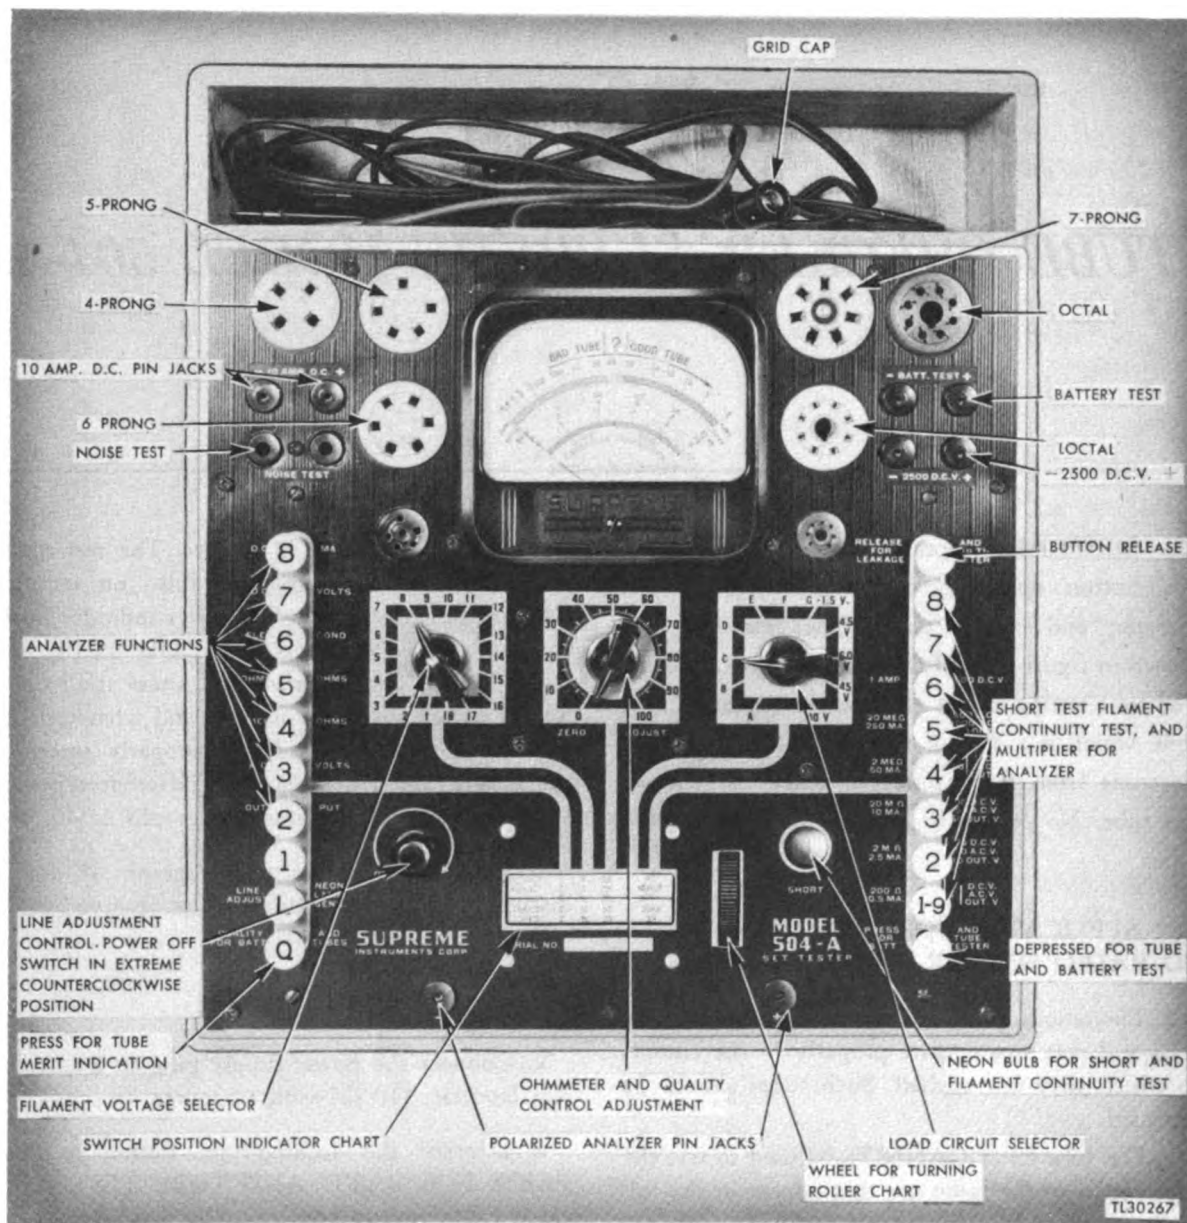
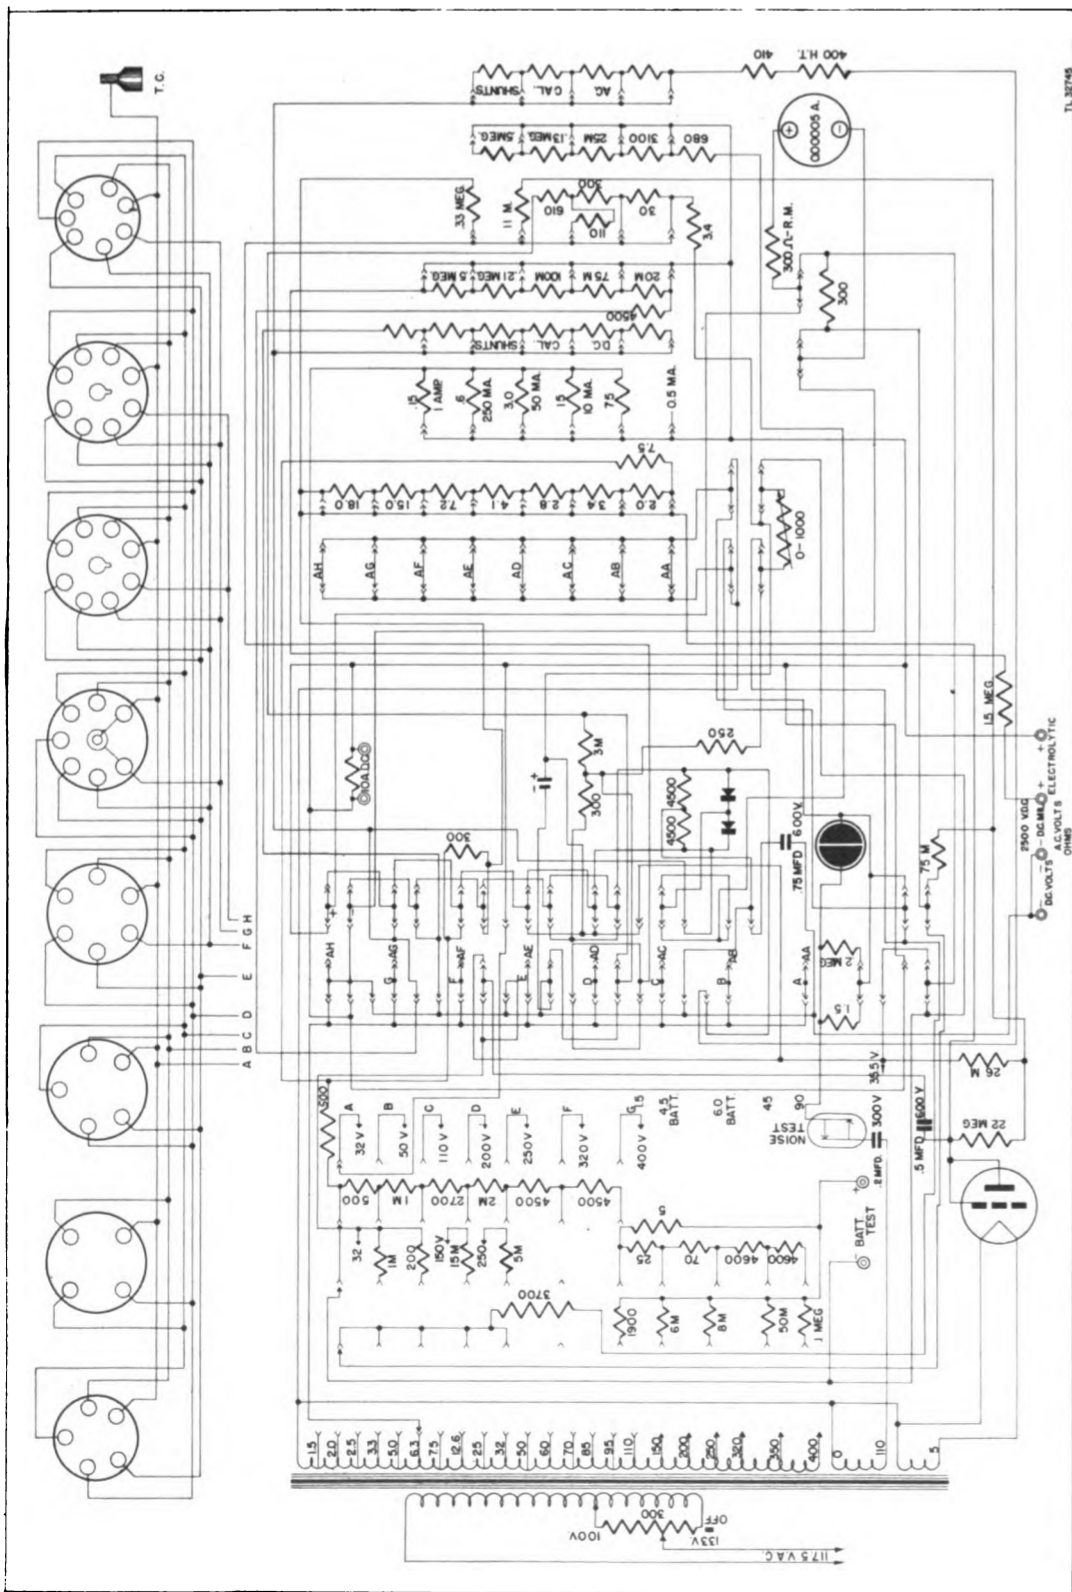

Figure 18. Tube checker, Supreme model 504-A, panel view.
Figure 19. Tube checker, Supreme model 504-A, schematic diagram.
68. GENERAL. Supreme model 504-A is a push-button operated, combination tube tester, analyzer, and battery tester. The front view is shown in figure 18 and the schematic in figure 19. The tube-testing circuit employs the emission principle which is a test of the tube's ability to emit electrons from the cathode to other elements of the tube. No provision is made for testing acorn tubes.
a. Limitations. (1) Tubes that appear good in tests still may not operate properly in the circuits to which they are applied. Such tubes should be replaced.
a. *General.* This tester is a precision instrument and no maintenance will be attempted by inexperienced personnel. Maintenance of this tube tester will consist chiefly of tube replacement and, to a limited extent, replacing of component parts. Battery replacement may also be required for the analyzing function of this instrument. Locate faults by continuity tests, resistance measurements, voltage measurement and visual inspection. The schematic diagram, figure 19, includes the values of component parts and power-supply voltages. Note that all double-throw, push-button switches make contact with the right-hand arrows when in their normal (up) position.